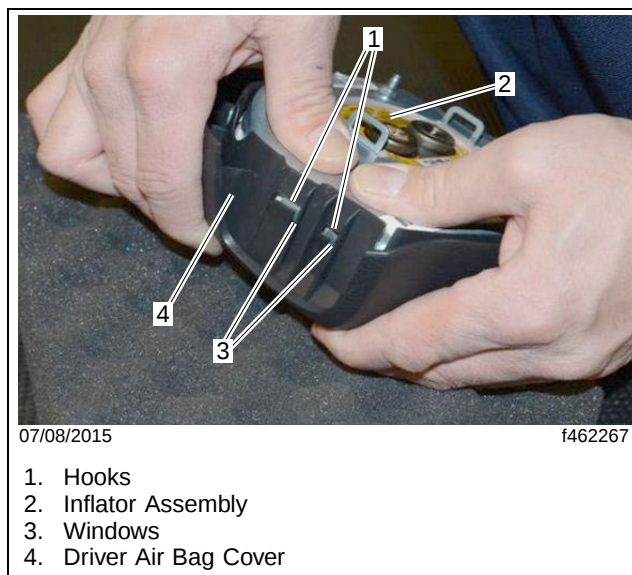

Fig. 4, Disengaging the Left-Side Inflator Assembly Hooks
- 12.1 Starting with the left side, press down on the inflator assembly until the hooks unsnap from the windows. See **Fig. 4.**